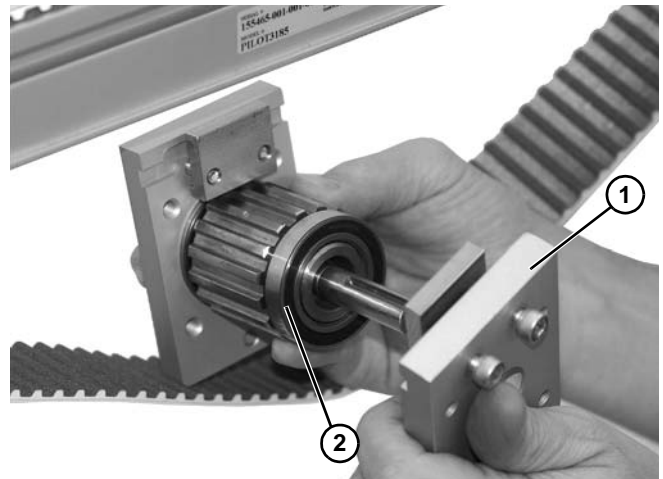

Figure 86
4. Separate mounting blocks (Figure 86, item 1) from spindle (Figure 86, item 2).